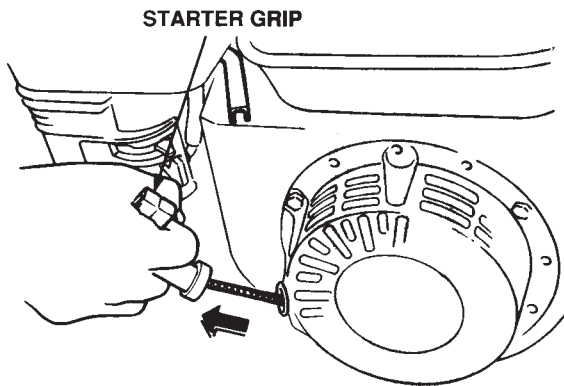

Figure 13. Starter Grip
6. Grasp the starter grip (Figure 13) and slowly pull it out. The resistance becomes the hardest at a certain position, corresponding to the compression point. Pull the starter grip briskly and smoothly for starting.